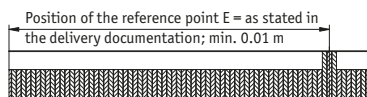

Fig. 6: Definition of the counting direction with magnetic strip and assemblage sensor/magnetic ring, gap measure, tolerances
- **Sensor must be aligned correctly with respect to the counting direction** (see fig. 6). This can be ignored if counting direction can be changed via the follower electronics.